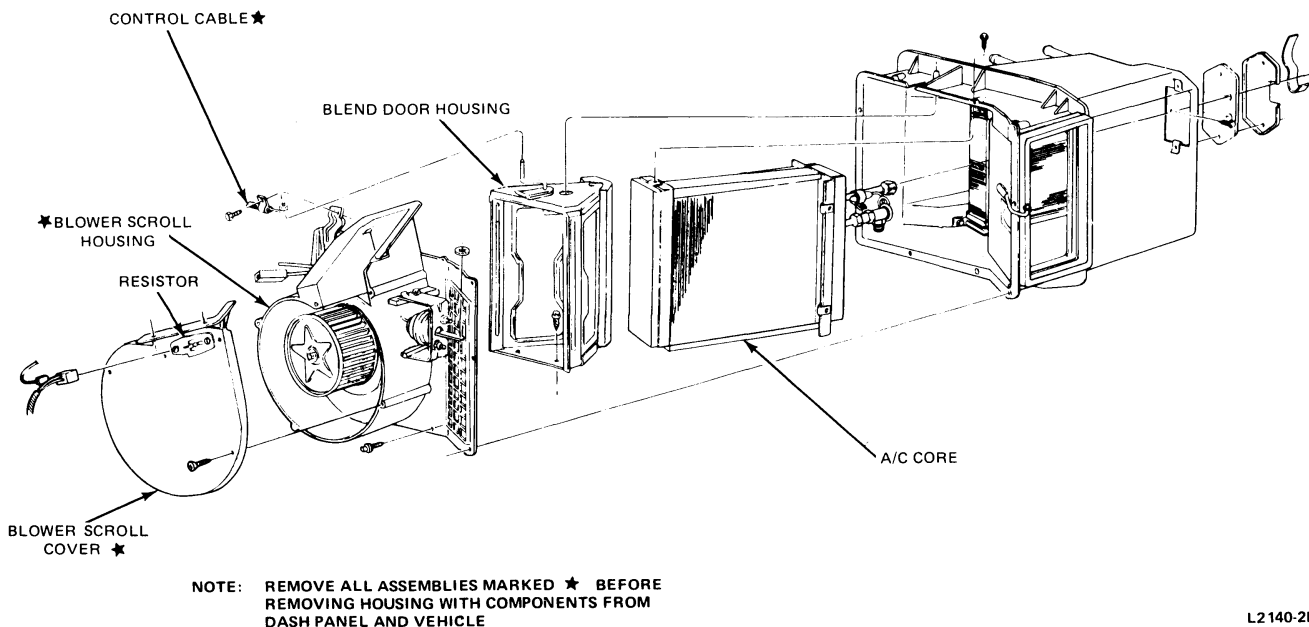

FIG. 23 Manual A/C Core Installation
1. Disconnect electrical leads from resistor on front face of A/C blower scroll cover (Fig. 23).
10. Connect heater hoses to heater core (2 clamps) (Fig. 23).
18. Connect electrical leads to resistor on front face of A/C blower scroll cover (Fig. 23).